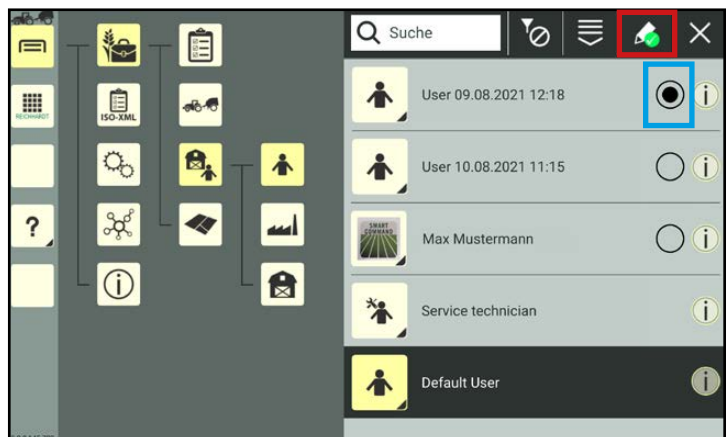
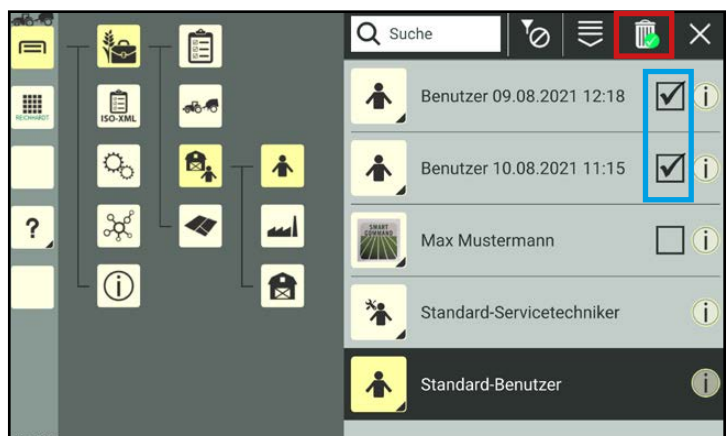

Fig. 177: Editing a list entry
Fig. 178: Deleting several list entries simultaneously
- Select an entry (see Fig. 177):
- Multi-selections are possible (see Fig. 178):
After selecting at least one list entry, the selected option is displayed as a button with a green checkmark in the top bar (see Fig. 177 and Fig. 178).